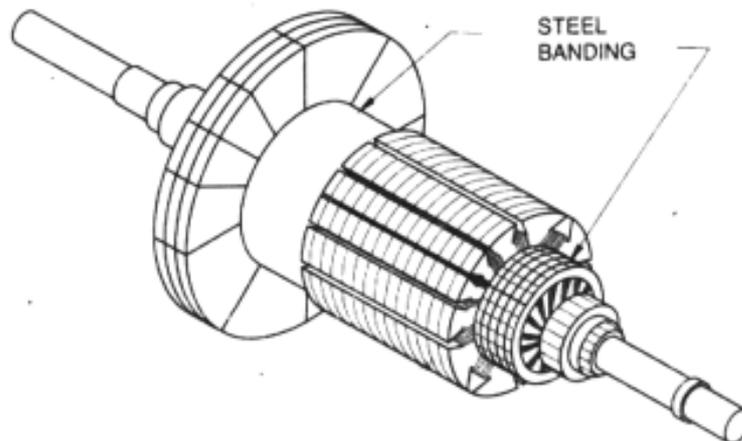

Fig. 6.11
**Steel bands :** Steel bands are laced on the front and back ends of the coils. These bands are up on the armature in a different manner than in the cord bands. The procedure is illustrated in Fig. 6.11, and is as follows. Place the armature in a lathe and lace mica or paper insulation in the band slot around the entire armature to insulate the band from the coil sides. Hold the insulation in lace by tying a turn of cord around it.